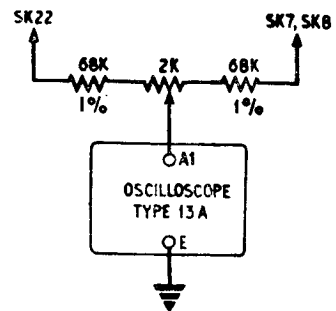

Fig. 2. Bridge circuit
36. The purpose of the sine and cosine amplifiers is to restore the amplitude lost in the resolver, that is, to ensure that the amplitudes of the output sawtooth waves (at maximum) are the same, at SK7 and SK8, as the input at SK22. Therefore the basis of this test is to measure the difference between amplitudes at SK22 and SK7 or SK8, using the test rig as in fig. 2, and to adjust for zero. Since it is essential for the amplifier gains to be the same in all units on the Station, to ensure coincidence of the range rings on change-over, the gain is initially adjusted individually in each amplifier, and then final adjustment is made by selecting one as master and adjusting the others during the head combining operation.
- (2) Set Y PLATE SELECTOR switch to DC.
- (3) Connect Y1 to SK7 and display X component waveform. Check that the waveform is a linear sawtooth, free from distortion, sweeping smoothly above and below earth, without any apparent shift of the rest level.
- (4) Set SELSYN ON/OFF switch to OFF and locate exact negative maximum by rotating the magstrip manually.
- (5) Check this by transferring Y1 connection to SK8 and ensuring that Y component output is at minimum.
- (6) Connect the bridge circuit (*fig. 2*) between SK22 and SK7, and disconnect the CRO from SK8.